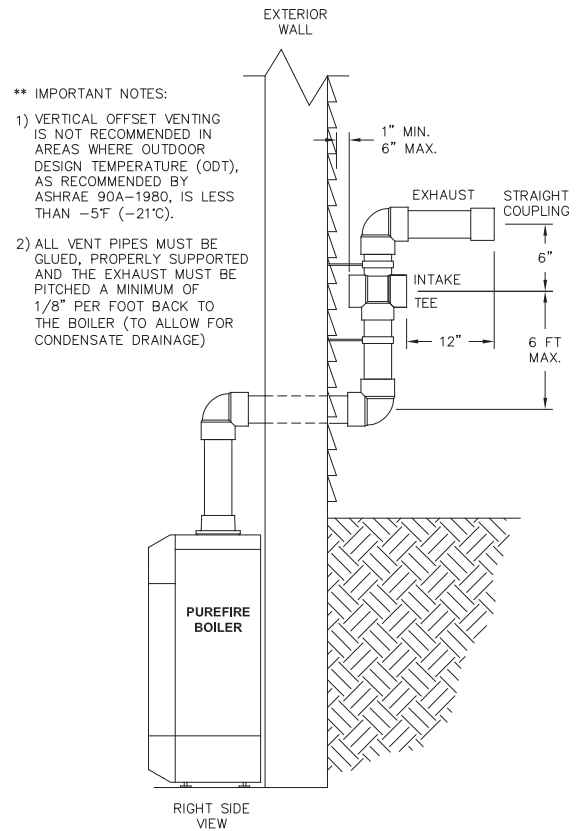

Figure 3.4: Offset Exhaust and Air Inlet Terminations
- c. Figure 3.4 is only approved for locations in which the outdoor temperature is above -5°F (-21°C) in accordance with ASHRAE 90A-1980 recommendations.